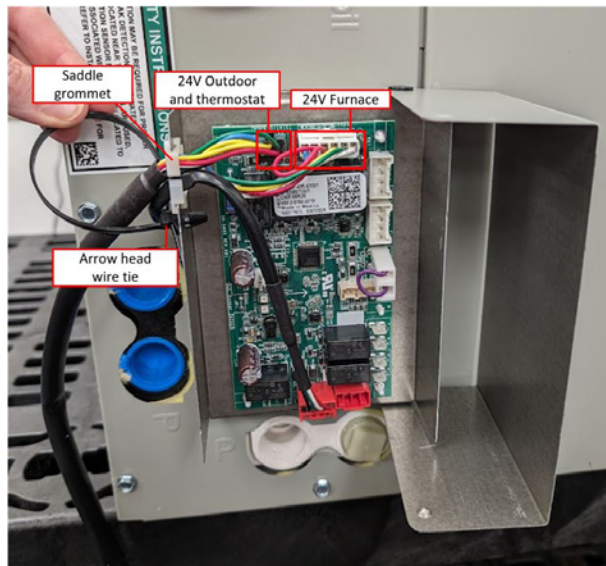

Figure 19: 24VAC harness connection to MCB
- **24VAC only:** Connect the white (furnace) connector and the black (Thermostat and OD) connector to the MCB as shown in Figure 19.